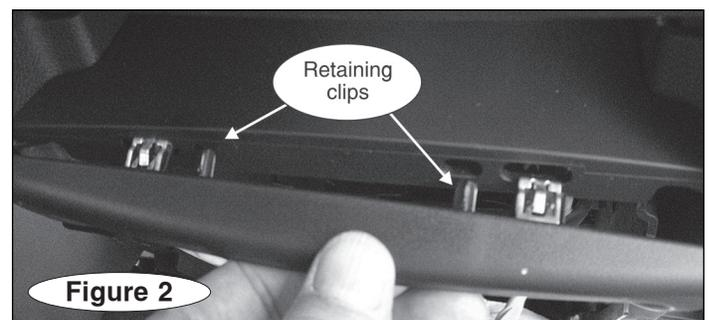

Figure 2
4. At the center console, remove the bezel surrounding the 12-volt power outlet – carefully pry it out by gripping it around the edges and pulling straight back until the retaining clips (Figure 2) release.